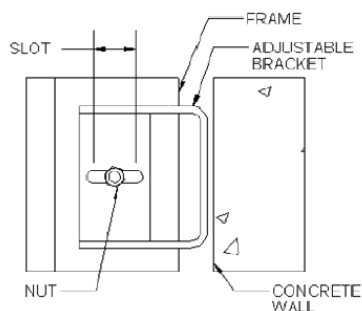
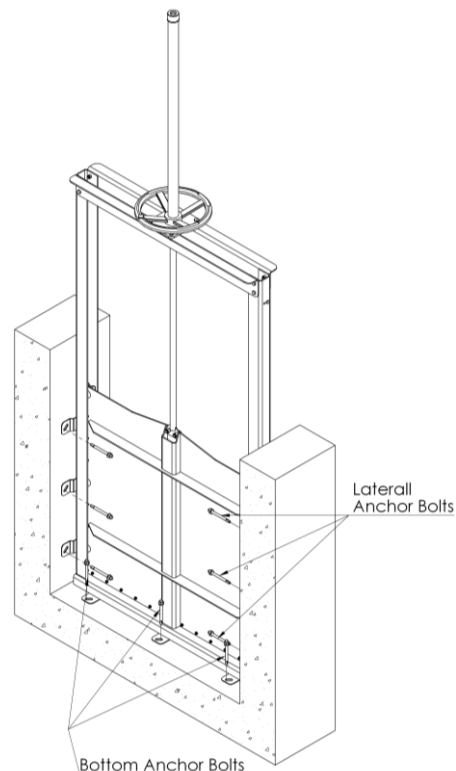
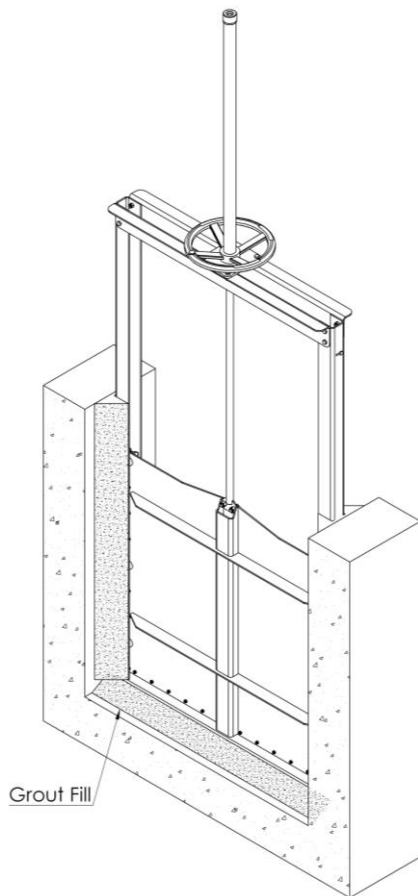

Figure 5
Figure 7
Figure 8
- Install the bottom anchor bolts, and then the lateral anchor bolts (see Figure 7). All Face Mounted Channel Gates incorporate bottom and lateral mounting brackets. For smaller sizes (typically same or under 1500mm/60"), the channel gate includes lateral flexible brackets (as seen in Figure 8) that require no field adjustment. For bigger sizes (typically over 1500mm/60"), the channel gate includes "Field Adjustment Brackets". In order to adjust the bracket, the following steps shall be followed (see Figure 5):
- Grout fill the remaining voids (See Figure 8), both at the bottom and laterals of the gate. Remember that the objective of the grout fill is twofold: